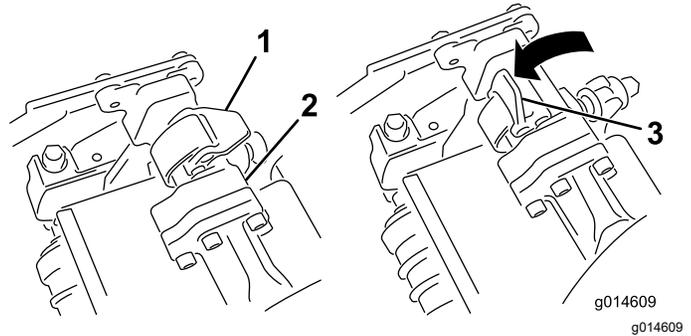
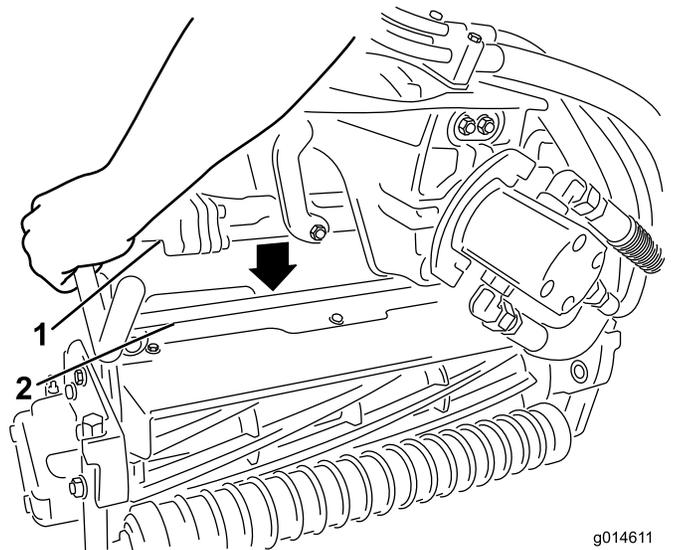

Figure 53
Figure 54
4. Open the latches on the suspension-arm bar (Figure 53) and push the suspension arm down so that the bar fits over both pitch arms on the cutting unit and ensure that the latches go underneath the cutting-unit crossbar (Figure 54).
5. Close the latches down and around the cutting-unit bar and lock them in place (Figure 53).
6. Open the latches on the suspension-arm bar of the cutting unit you are removing (Figure 53).